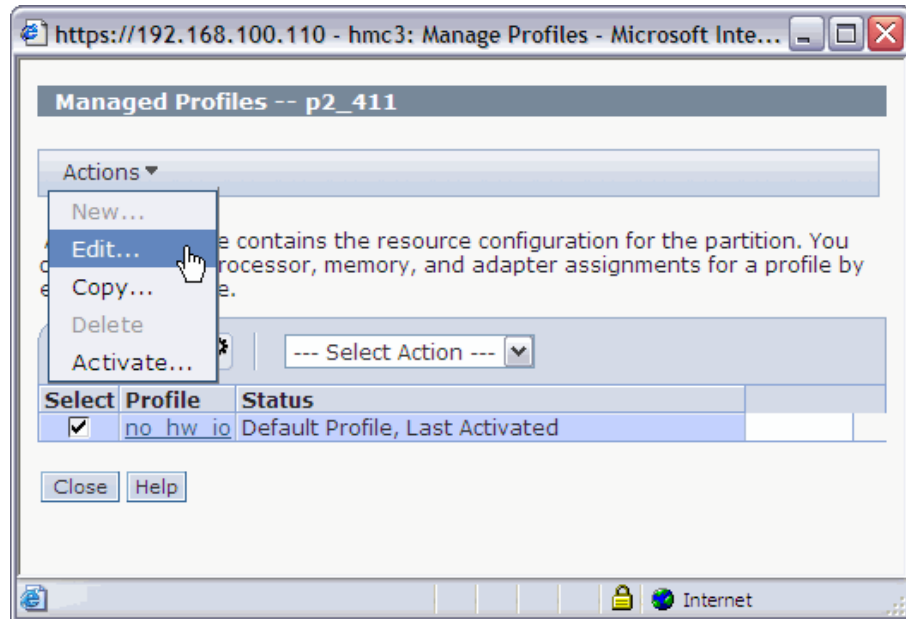

Figure 5-16 Edit a managed profile
12. Modify the profile of the client logical partition and create a virtual Fibre Channel client adapter. Select the required client partition, and then edit the profile by using the **Action** → **Edit** function, as in Figure 5-16.